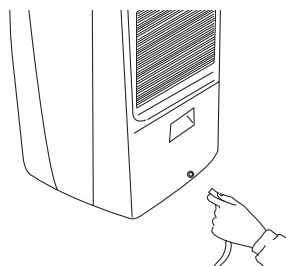
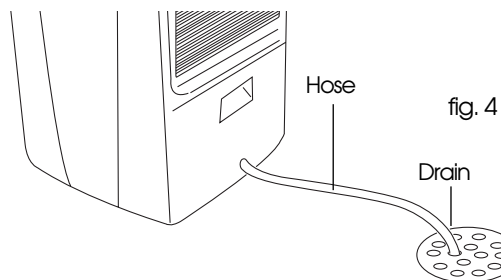

fig. 3
fig. 4
3. Connect a hose to the hose connector (fig. 3). Be sure the hose does not kink or bend. Make sure that the hose is not higher than the hose connection (see figure 4).